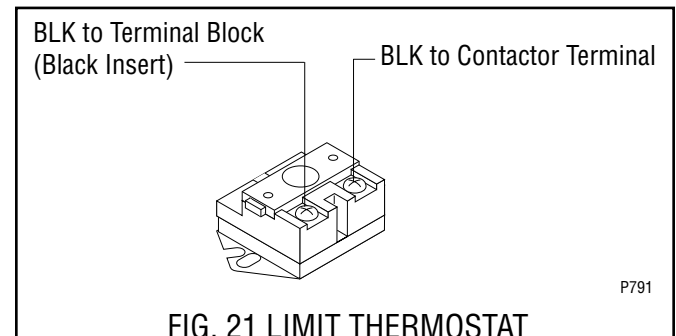

FIG. 21 LIMIT THERMOSTAT
4. Refer to Fig. 21 when reconnecting the wires.